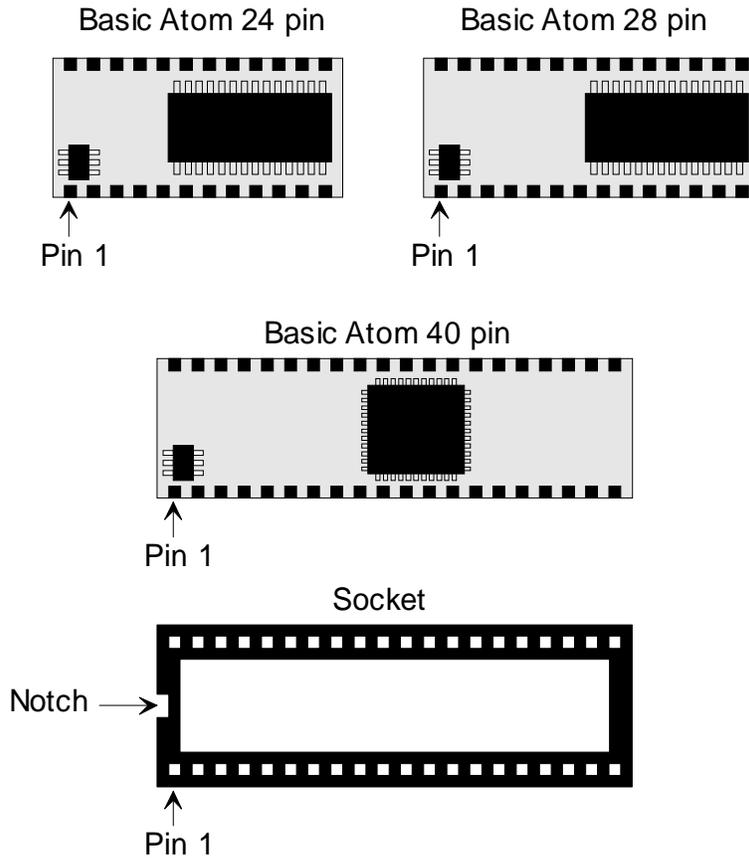

Figure 3 - Orienting the Module
2. Plug your Basic Atom module into the development board socket, making sure to align it at the end marked Pin 1 (see Figure 3). Be sure not to bend any of the pins.